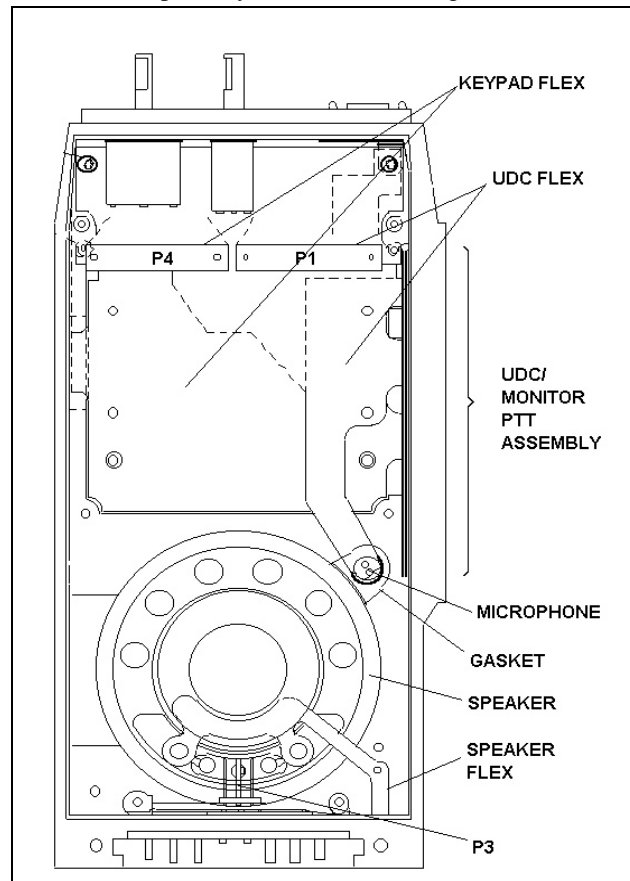

Figure 4 - Speaker, Microphone and Flex Circuit Access
Remove the Control Board as previously stated and then remove the six (6) Torx screws that secure the die-cast shield. Remove the die-cast shield by lifting the top end first and sliding it towards the top of the radio. The internal speaker, microphone, Keypad and UDC Flex circuits are now partially accessible. See Figure 4.